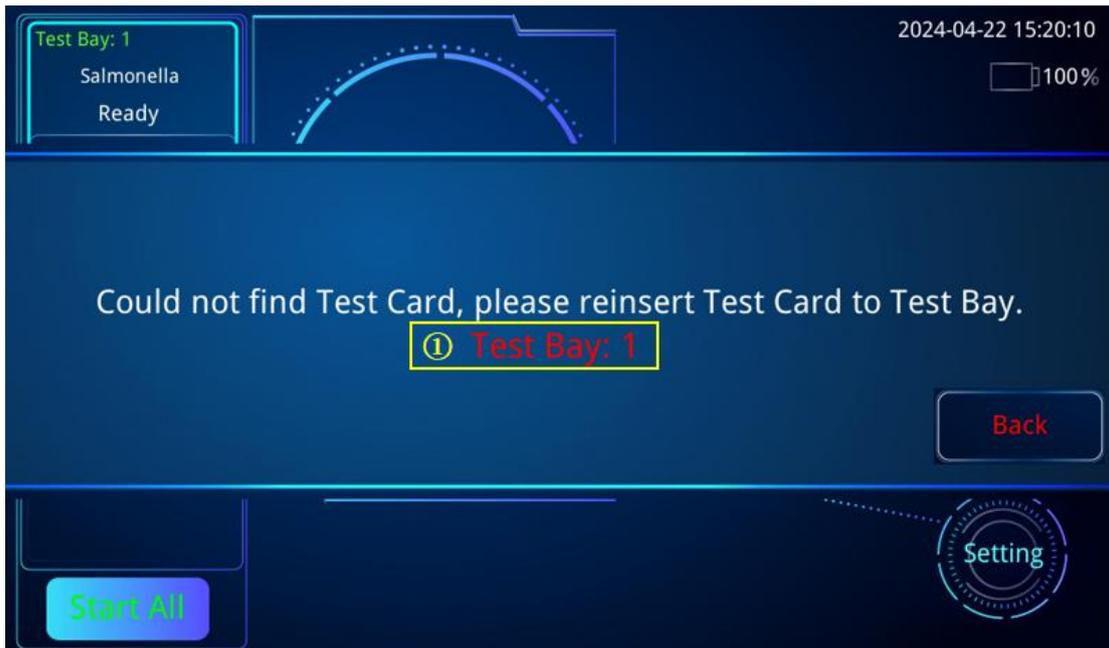
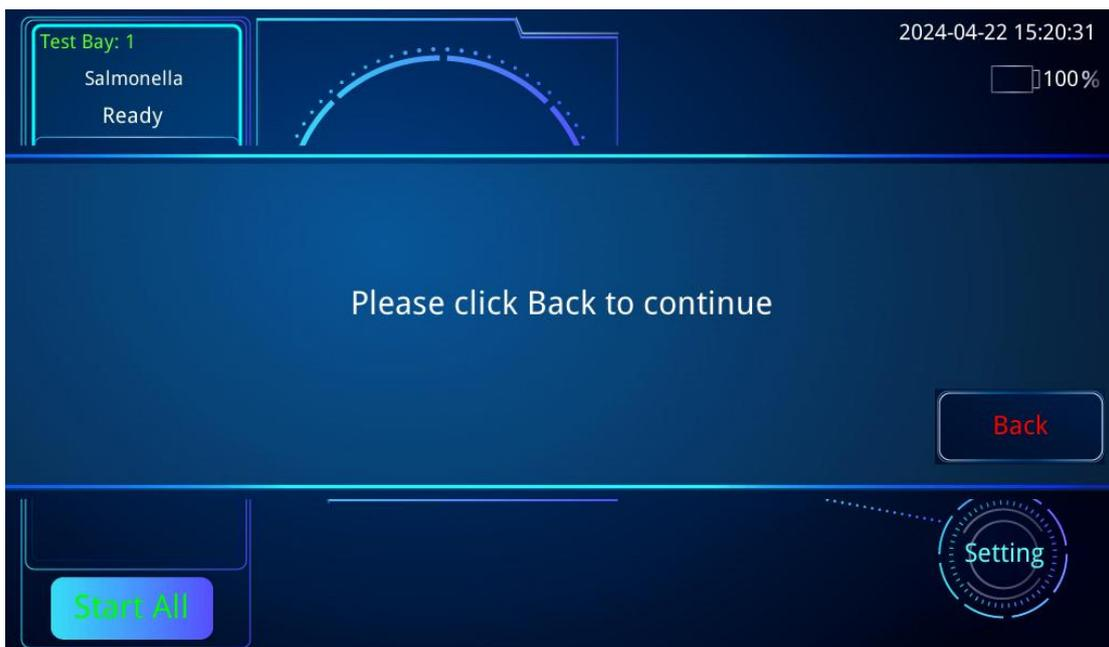

Figure 22 Dialog Box prompting Test Card is Accidentally Removed or Not Inserted Properly before the Task Starts
Figure 23 Dialog Box “Please click Back to continue”
When the following situation occurs (Figure 22), this Dialog Box indicates that the Test Card is accidentally removed or not inserted properly before the Task starts. Follow the instructions (Figure 22 ①) in the prompt and reinsert the Test Card into the indicated Test Bay (Figure 10). Once the Test Card is properly reinserted, the prompt will automatically change to “Please click Back to continue” (Figure 23). Click “Back”, and it will automatically return to the Main Page, and the task will be created successfully.